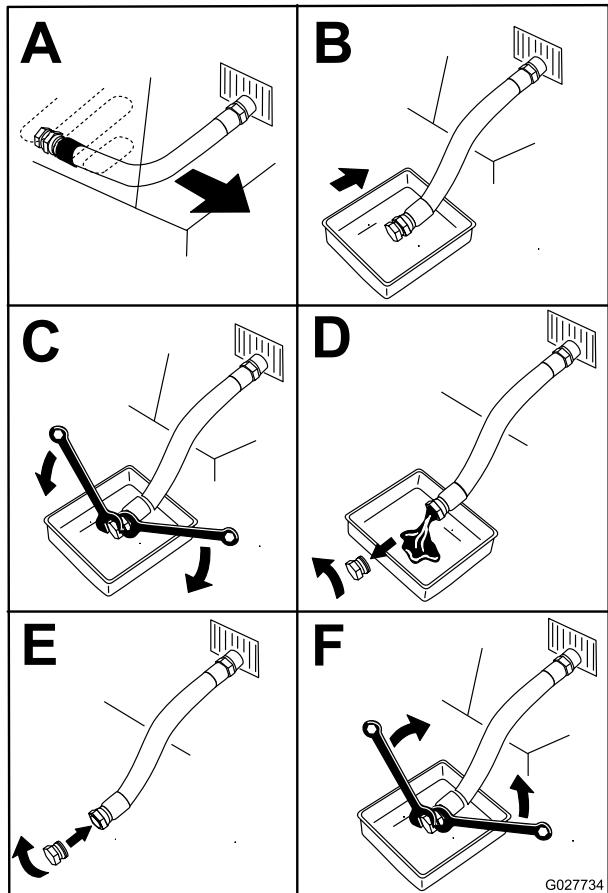

Figure 43
5. Drain the oil from the engine (Figure 43).